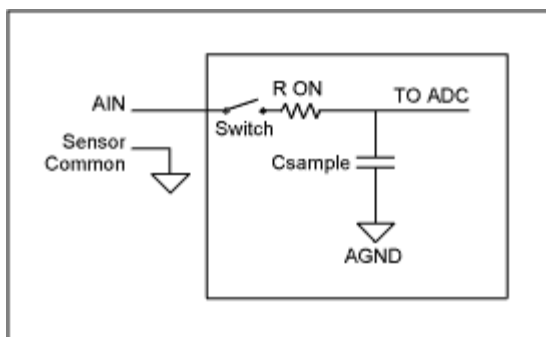

Figure 8. Single-ended T/H stage.
**Figure 8** shows a simplified example of a track-and-hold (T/H) input of a single-ended ADC. The sampling capacitor is switched to the input pin through a series resistance during the 'TRACK' mode. The switch opens when the T/H enters 'HOLD' mode (during the actual conversion process) and the ADC converts the voltage across the sampling capacitor into a digital code.